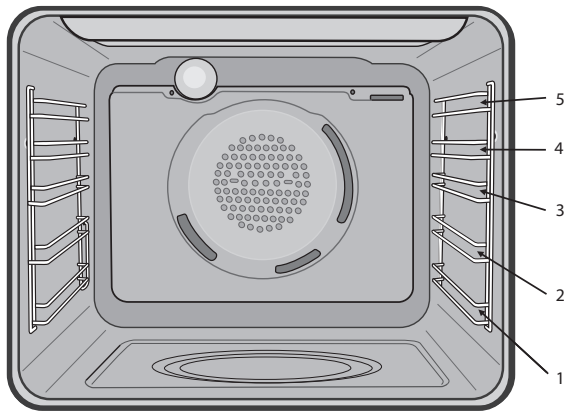
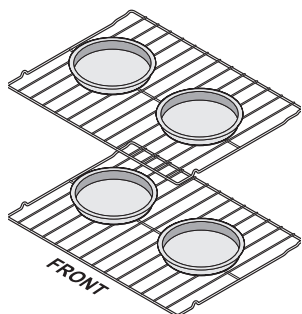

Figure 15: Oven Rack Positions
Figure 18: Baking with multiple levels & racks
- For best results when baking with one oven rack, place racks in positions 5 (Figure 15).
- For best results when baking cakes or cookies using two oven racks, place racks in positions 1 and 3 (Figure 15) and place pans as shown in Figure 18.